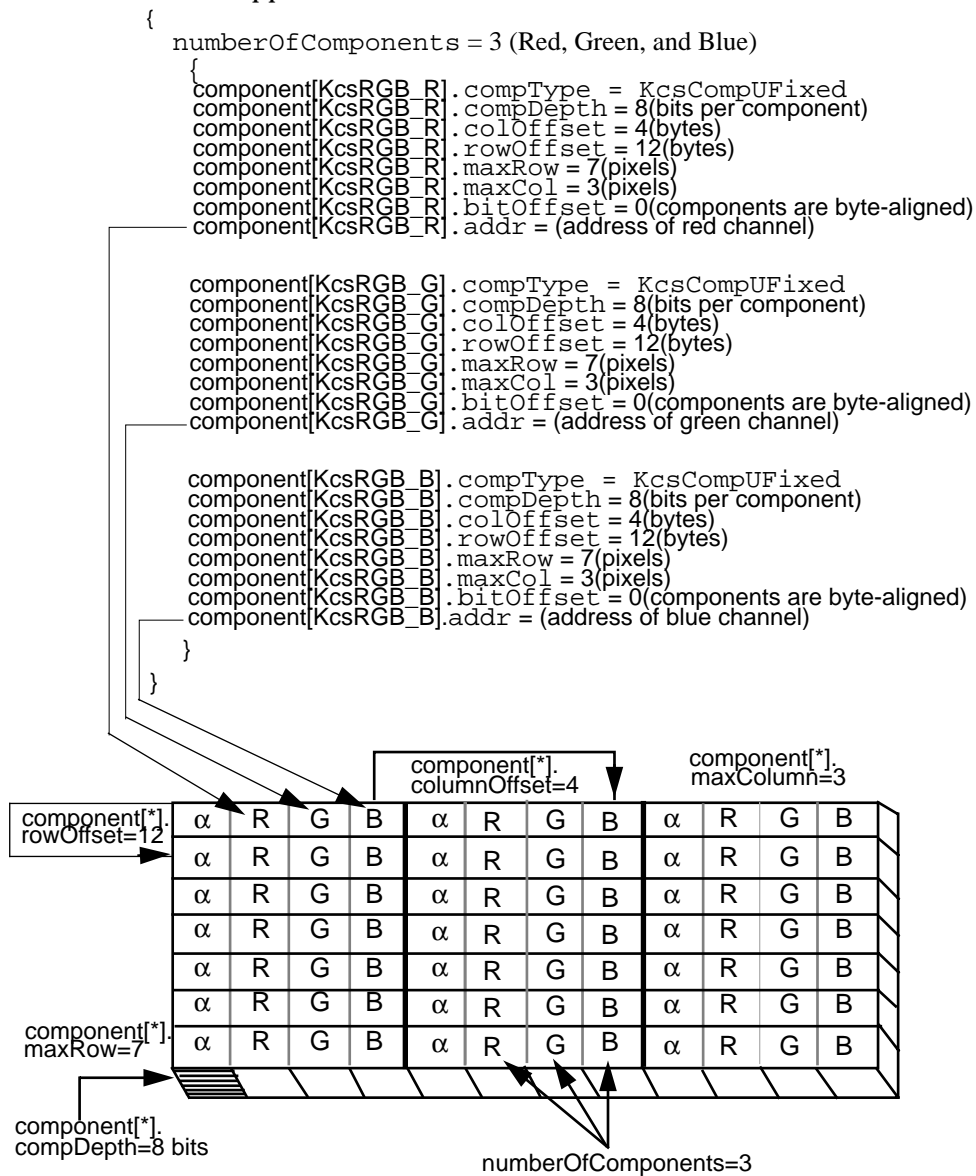

Figure 3-2 24-bit Color Component-Interleaved Data for RGB Pixel Image
- *Component-interleaved* data—components of a pixel (for example, the red, green, and blue components of an RGB image) are stored in consecutive memory addresses. (This is also called *pixel-interleaved* data.) See Figure 3-2 on page 52 for a detailed diagram of this pixel layout.
You can use a pixel layout structure to define any rectangular region of a larger image. Figure 3-2 illustrates the component-interleaved, 3-by-7 layout supported in the C API.